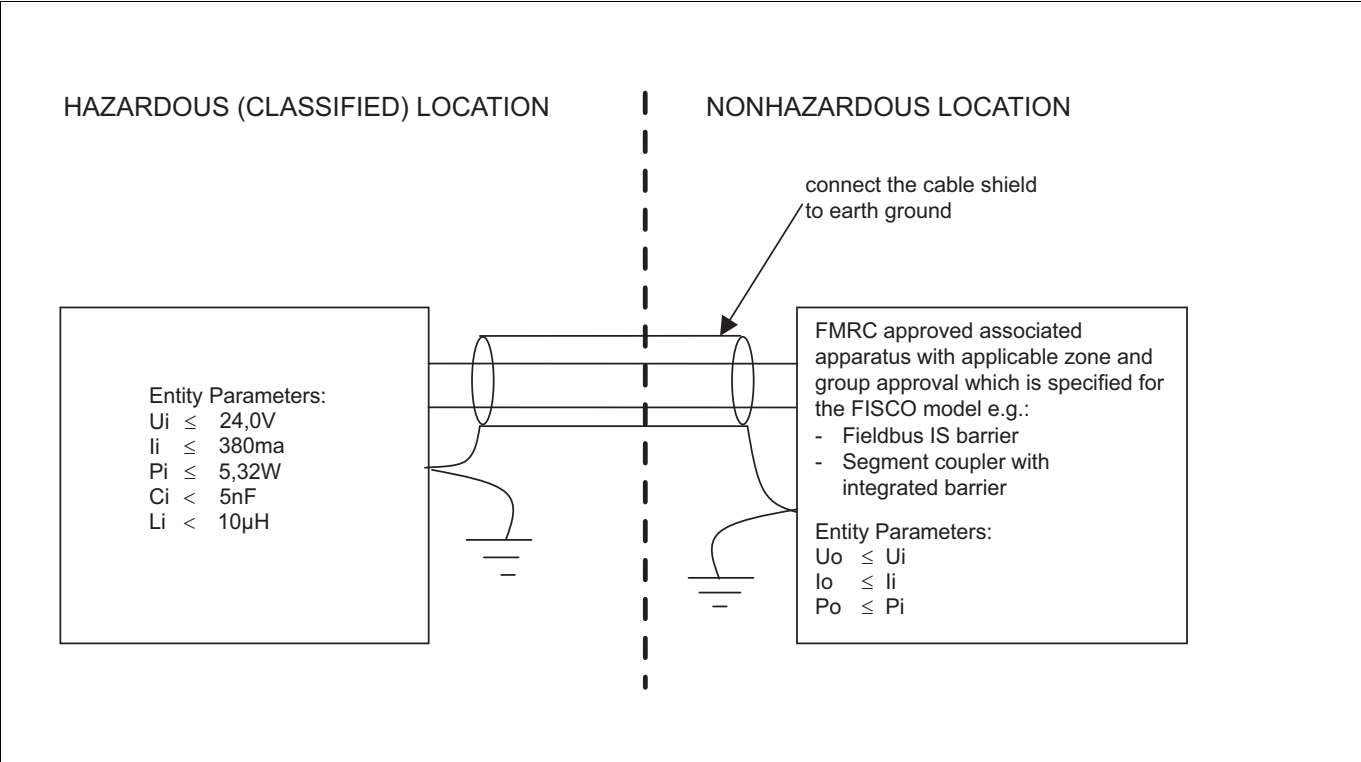

Fig. 13 Control wiring, ND9000F and ND9000P, Ex i
For applications if there is e.g. heavy vibrations, environment temperature is very high or access is difficult, there is available remote position measurement option. In this kind of applications position sensor is attached to actuator and ND9000 can be installed further away. Pneumatic piping between ND9000 and actuator is done as explained in chapter 4.6 and wiring between position sensor and ND9000 according to Fig. 13.
6. Connect the connector end of the position sensor cable to the ND9000 female connector shown in Fig. 13.